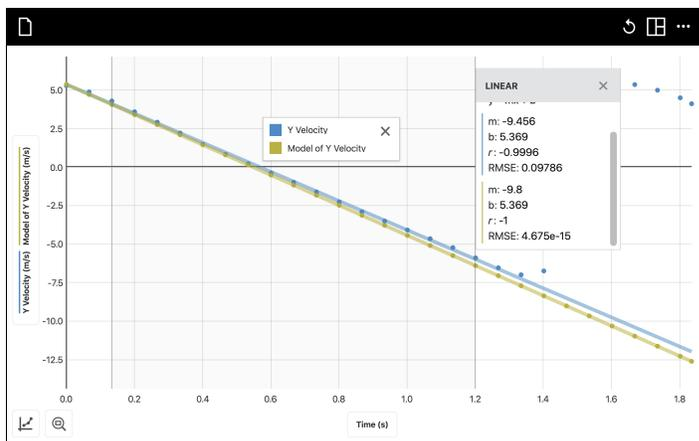

Figure 5 Two linear models, one based on the original curve fit (blue) and one based on the y intercept of the original curve fit (light green), are displayed.
- Modeling the ideal motion can be done using the expression $A \cdot X + B$ found in the calculated column expressions. A is the acceleration of gravity, -9.8 m/s^2 , and B is the initial upward velocity. For the purpose of this activity, the student may use either the initial velocity from the Y Velocity column or the y intercept of the linear fit for the y velocity vs. time graph (see Figure 5). If some students or groups use the Y Velocity column and others use the y intercept, students can discuss the differences between the models and the reasons for them. **Note:** Instructions for creating a calculated column are found in the Vernier Video Analysis User Manual, <http://www2.vernier.com/manuals/video-analysis-manual.pdf>